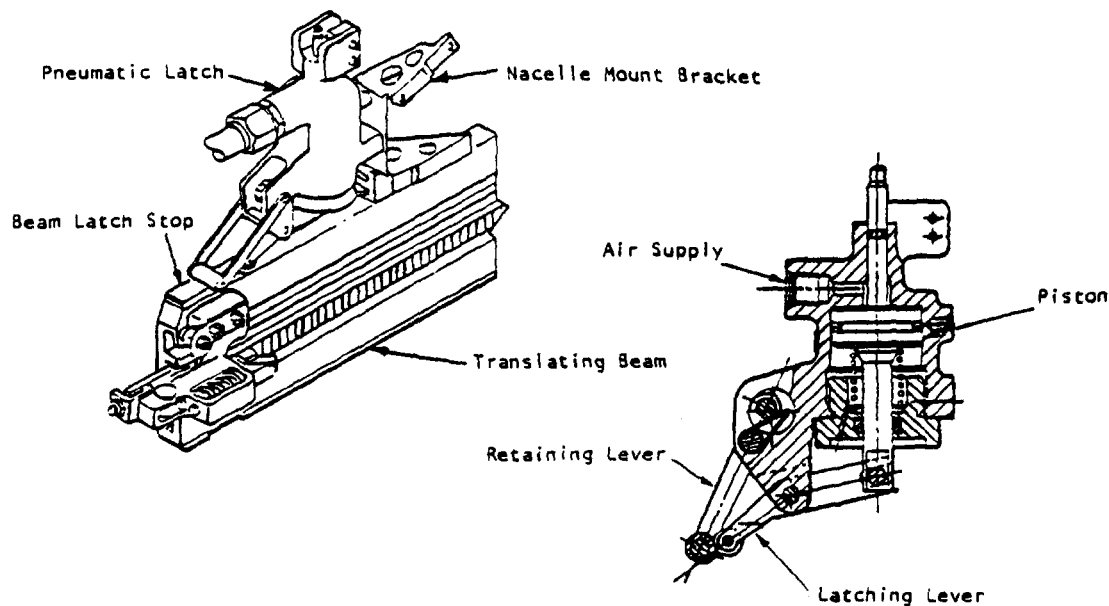

Figure 1 - Pneumatic Latch Installation (Outboard Shown)
1. Description. A pneumatic latch (see Figure 1) is mounted in the aft nacelle at approximately 10 and 2 o'clock positions for the left-hand reverser and 8 and 4 o'clock positions (inverted) for the right-hand reverser. Each pneumatic latch consists of a spring-loaded actuator (piston type) which positions an angled latching lever. The latching lever functions to lock the reverser in stow when not required by creating an overcenter relationship of the latch lever to the beam latch stop. A retaining lever functions to retain the latch lever in the unlocked position during commanded deploy.